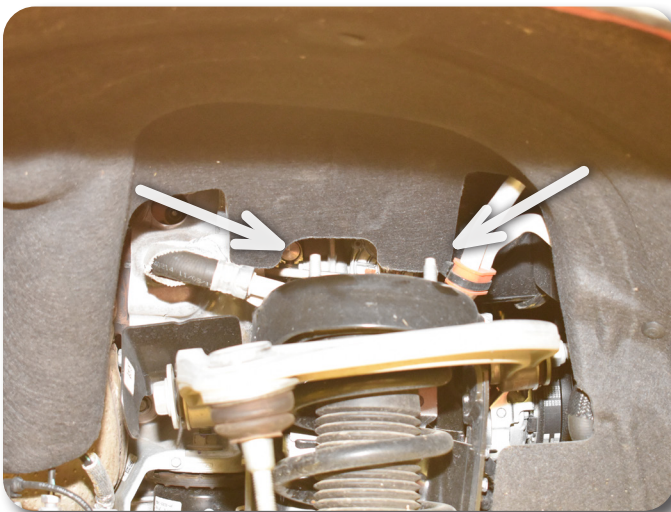

Figure 9
13. Remove the three upper strut mounting nuts at the frame. **Figure 9** DO NOT remove the center strut rod nut. Discard the nuts.